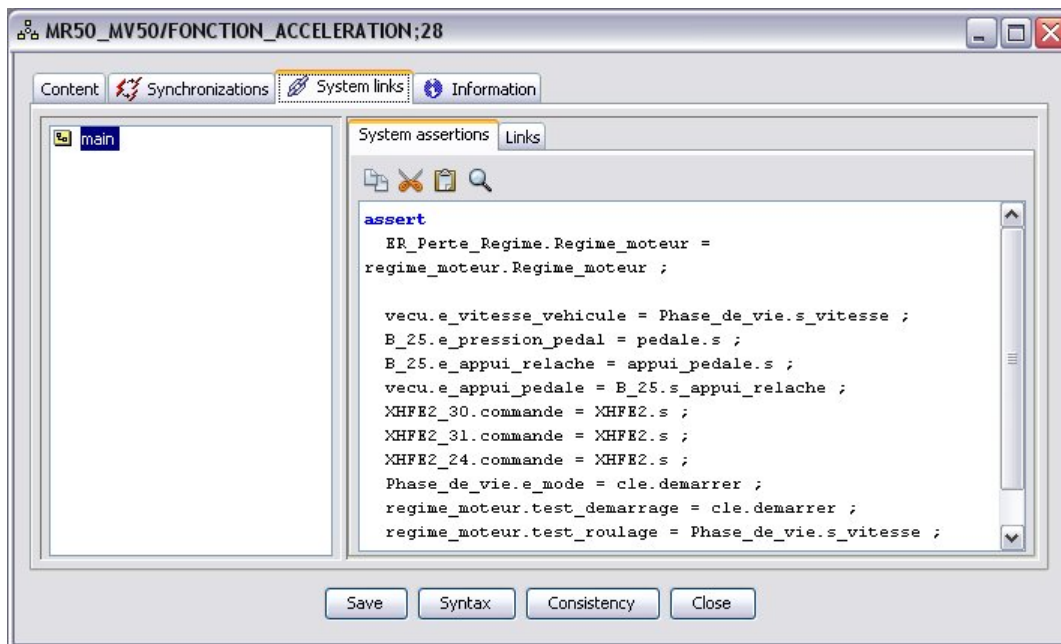

Figure 57 : System assertions tab
1. Click on the **System assertions** tab; the following window (Figure 57) is displayed.